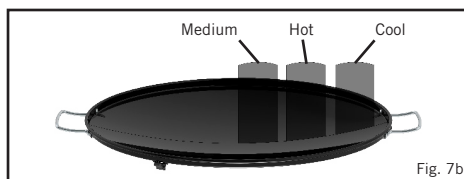

Fig. 7b
- Cooking temperatures are easily adjusted to suit your own requirements by turning the control knob (K) to regulate the degree of heat. A feature of the Skottel BBQ is that it offers various heat zones (See Fig.7b). This is very useful as some foods cook quicker than others and the food that is ready first, can be moved to the cooler areas of the dish to keep warm whilst the balance of the food is still cooking.